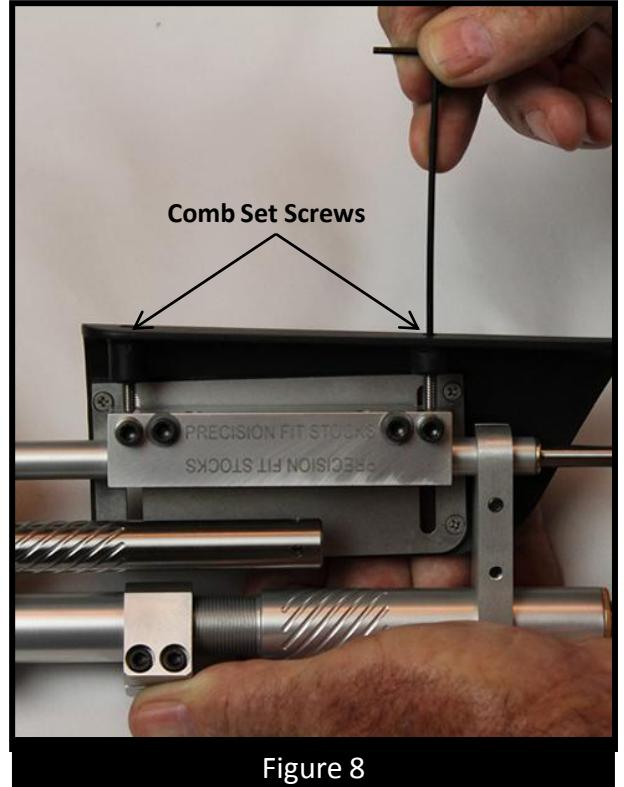

Figure 8
2. Loosen both Torx screws then raise or lower the comb set screws [Ident. G,H] with your 5/64" Allen wrench. (*Figure 8*)
- B. Lowering or raising the comb will effect point of impact (center of pattern placement). One complete turn of the comb set screws (see *Figure 8*) raises or lowers the comb $1/32"$. This raises or lowers the center of the pattern approximately $1"$ at forty (40) yards. Don't just take for granted the shotgun is shooting where you are looking. When you break a target, watch the clay target pieces. If the pieces initially go up, you're shooting under the target. Conversely if the pieces go (blow) down, you're shooting slightly over the clay target. When you "smoke" a clay target you are utilizing the center of your pattern. When your point of impact is optimized you will "smoke" more targets as opposed to chipping them. This procedure takes time but once you have the shotgun shooting where you are looking you are on your way to more consistent and better scores regardless of weather conditions. Once you've established your correct point of impact and proper fit, additional changes should be carefully considered, and if pursued, done in small increments. Once you have something that works well for you, concentrate on relaxation and shooting one target at a time.